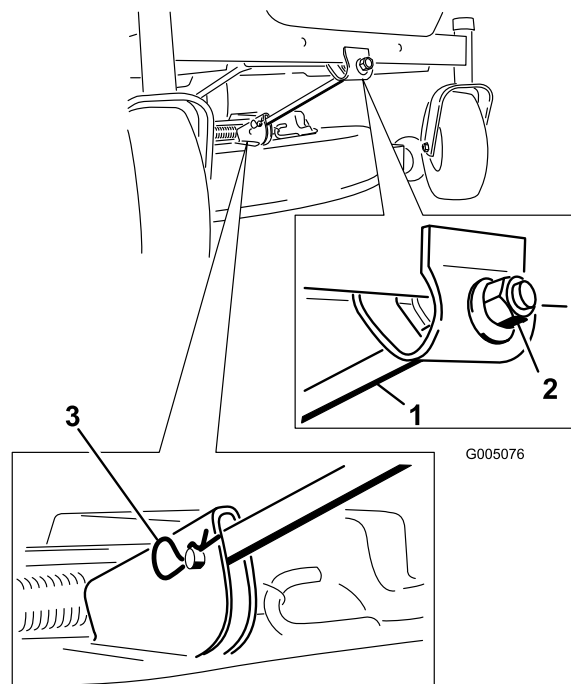

Figure 45
- Remove the hairpin cotter and clevis pin from the front support rod (Figure 45). Carefully lower the front of the mower deck to the ground.
6. Attach the front support rod to the mower deck with the clevis pin and hairpin cotter (Figure 45).